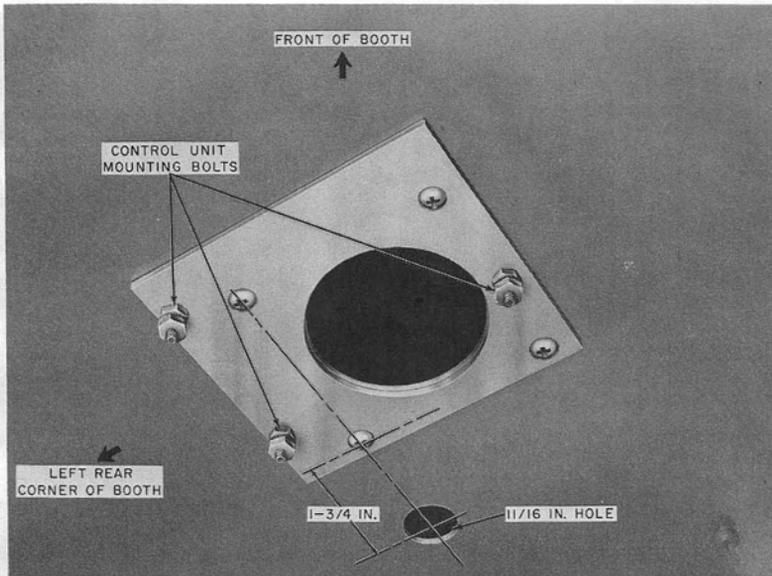

Fig. 15—Installation of Adapter Plate to Ceiling of KS-16797 Booth
- (f) Secure light control adapter plate on ceiling where cord plate was removed (Fig. 15). This adapter plate must be placed with the two control unit mounting bolts toward the left rear corner of booth.
- (g) Locate and drill one 11/16-inch diameter hole in the ceiling as shown in Fig. 15.